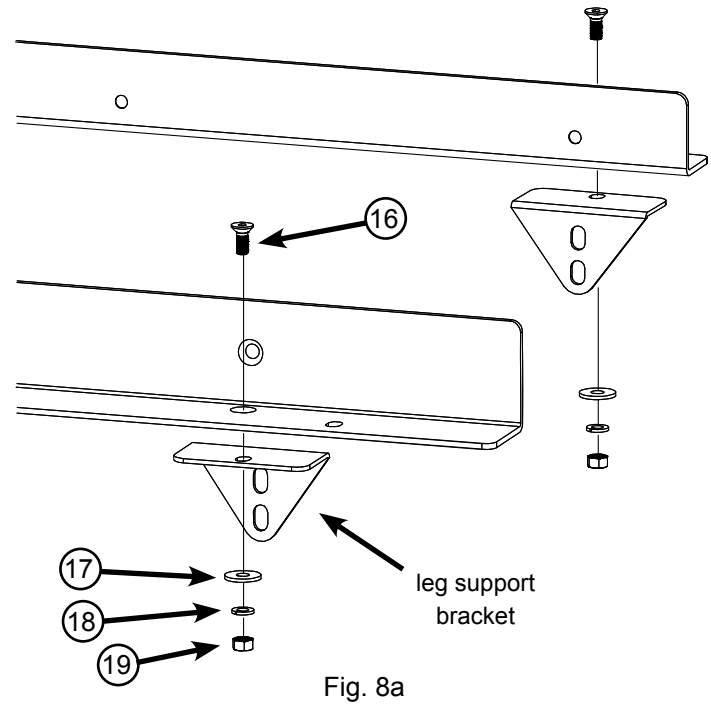

Fig. 8a
8. Locate the two leg support brackets. Remove the two M8 x 20 countersunk socket head bolts from the T-Glide Table Hardware Pack along with two M8 washers, two M8 lock washers and two M8 hex nuts. Mount one leg support bracket to the underside of each of the rails as shown in Fig. 8a. Hand tighten the nuts; do not fully tighten them.